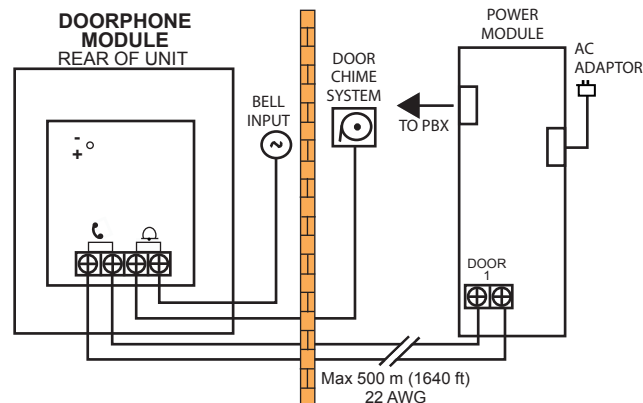

Figure 2 - Doorphone Module's Interconnects
2. Figures 2 and 3 on page 5 show interconnection in more detail.